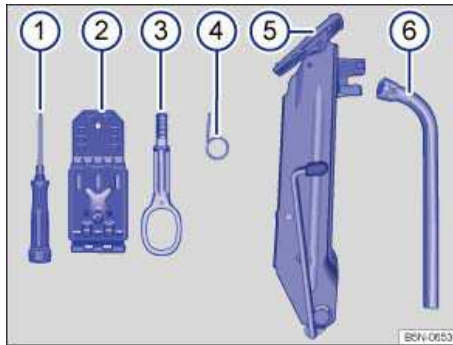
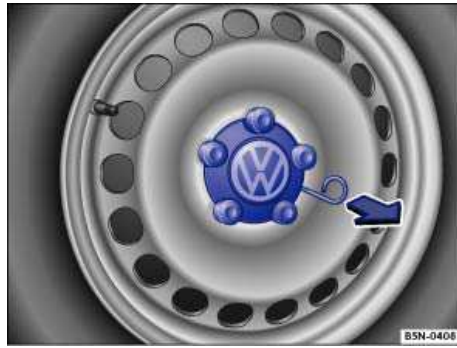

Fig. 190 Contents of the vehicle tool kit.
Fig. 192 Pulling off hubcap.
Contents of the vehicle tool kit ⇒ fig. 190
The folding chock is in the vehicle tool kit ⇒ fig. 190.
- To remove take the wire clip out of vehicle tool kit ⇒ fig. 190 \(4\) and hook it into the edge of the hubcap ⇒ fig. 192.